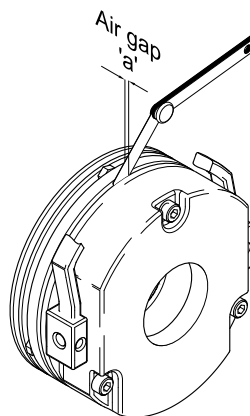

Figure 48 – Checking Hoist Brake Air Gap
To inspect the air gap it may be necessary to lift or remove the outer brake seal (8a), where fitted. Adjustment of the hoist brake will require total removal of the outer brake seal. The air gap 'a' (between the stator (5) and the armature plate (1)) should be checked in at least three positions around the circumference of the brake using non-magnetic feeler gauges (see Figure 48). The air gap should not exceed the maximum air gap figure given in the above table.